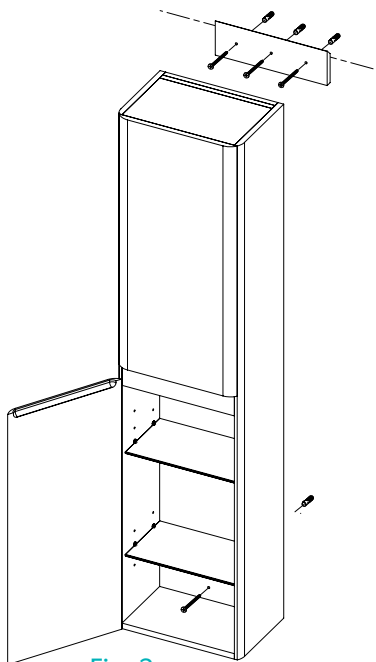

Fig. 3
3. Using a spirit level, mark a horizontal line below the pencil mark, taking into account the location of the French cleat furniture hanger. Place French cleat against the wall, on the pencil line and carefully mark the position of the holes using a soft pencil. (Fig. 3).
6. Fix the French cleat to the wall using the screws provided (Fig. 3).
10. Mark the position of the screw hole onto the wall. remove the unit and using a suitable drill bit, drill a hole in the marked position to a suitable depth, then insert the wall plug as per step 5 above (See Fig. 3).